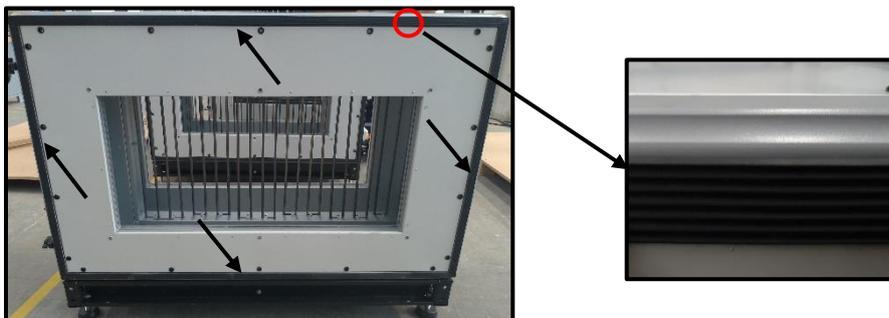

Fig. 57
1. Apply sealing strip to the surface where the module will be connected with the device (Fig. 57)